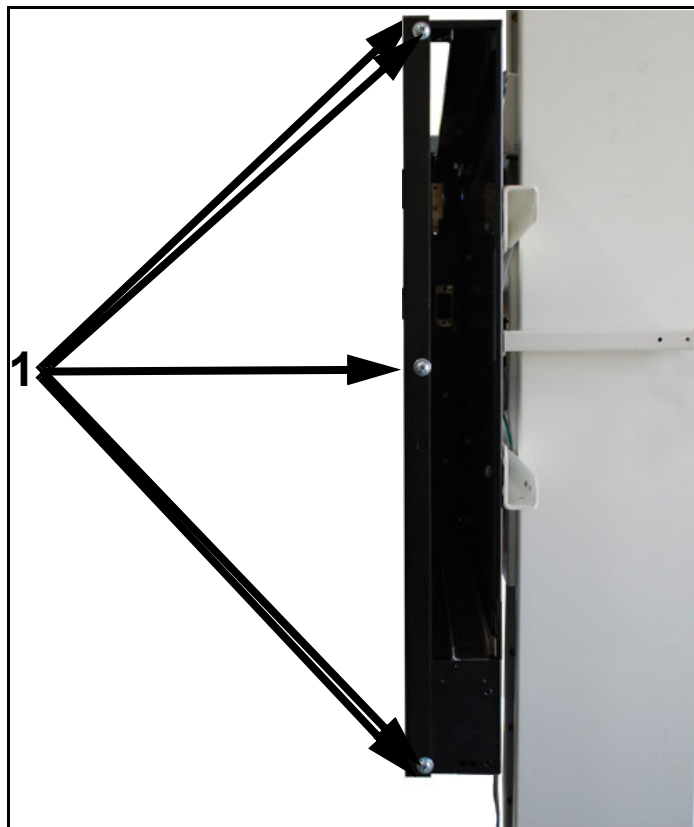

Figure 5-15. PBL Bracket Screws
- 14** Reattach the left face plate holder with the five screws (1 in Figure 5-15).